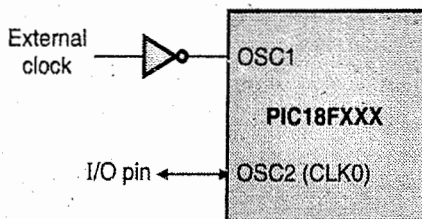

Fig. 4.13.5 : External clock input operation
- Fig. 4.13.5 shows the oscillator for ECIO mode. It also uses an external clock. In this mode the OSC1 pin is driven by CMOS drivers and OSC2 pin is multiplexed with an I/O pin.